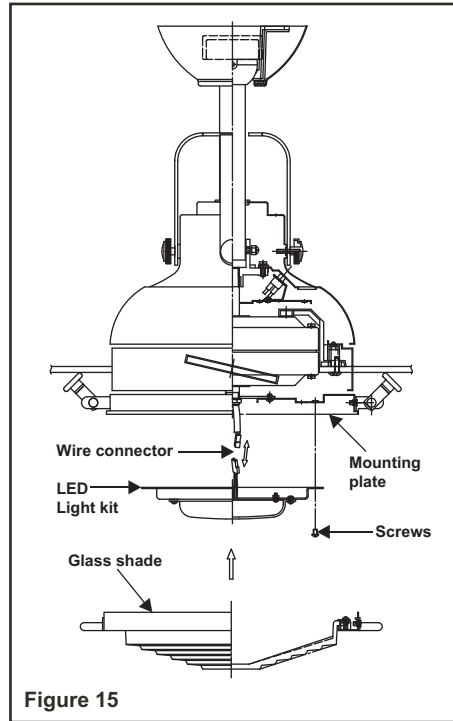
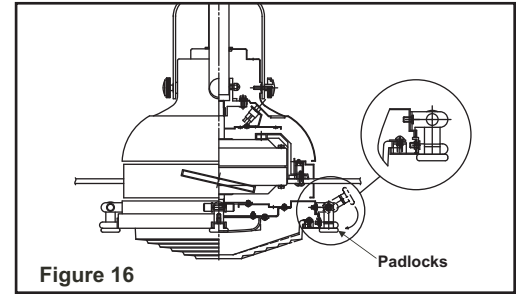

Figure 15
Figure 16
Step 1. Remove the 1 of 3 screws from the posts of the mounting plate and keep it for future use. Loosen the other 2 screws. (Do not remove) (Fig. 15)
Step 3. Place the key holes in the LED light kit over the two screws previously loosened from the mounting plate. Turn the LED light kit until the LED light kit locks in place at the narrow section of the key holes. (Fig. 15)
Step 4. Attach the glass shade to the mounting plate. (Fig. 15) Align the holes in glass shade and mounting plate, and then rotate down from the mounting plate. Secure by tightening all padlocks. (Fig. 16)